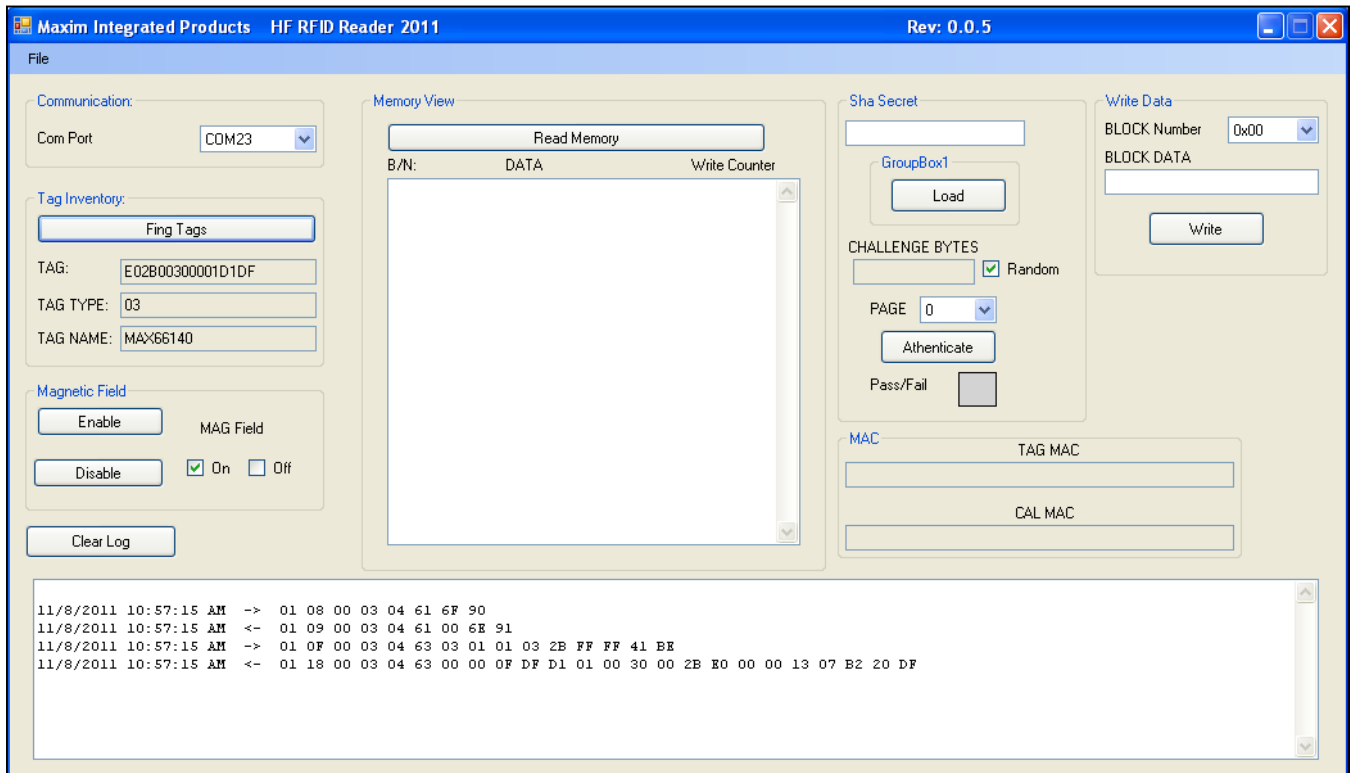

Figure 3. Find Tags
- 7) Place a MAX66140 ISO card on the on-board antenna and select the **Find Tags** button. See Figure 3.